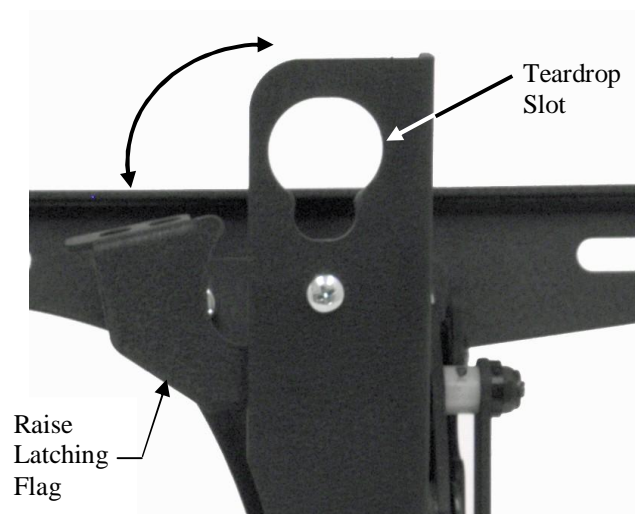

Figure 6. Raise Latching Flag to Lock
2. Raise the latching flag to secure the display (see Figure 6). If the flag does not fully engage, check to ensure the mounting buttons are fully seated in the slots.
2. Lower the latching flag to unlock the display (refer to Figure 6).